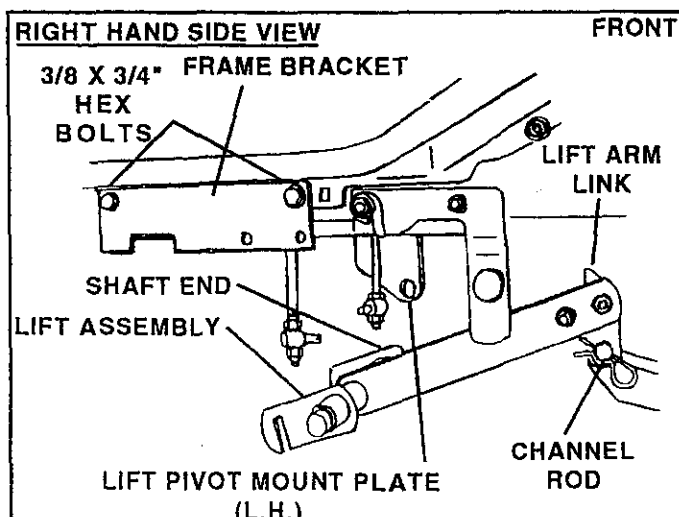

FIGURE 19
18. Assemble lift arm link over channel rod and insert pivot shaft end (from R.H. side of tractor) into hole in L.H. lift pivot plate. See figure 19. Secure lift arm link to channel rod with 1/8" (large) hairpin cotter. See figure 19
19. Assemble the frame bracket (RH) under the right hand foot rest of the tractor using two 3/8 x 3/4" hex bolts. Tighten securely taking care not to strip threads. See figure 19.